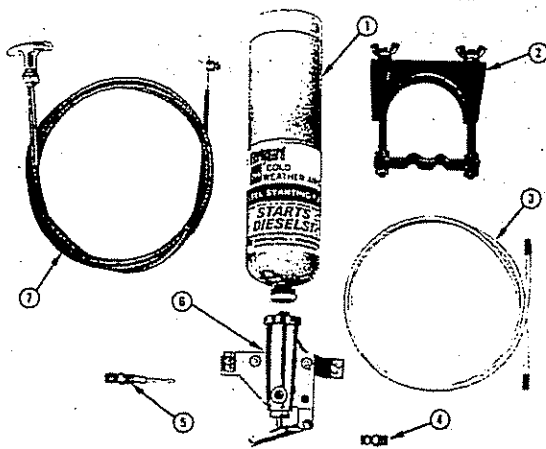

Fig. 1-11, (OM1007L). Manually operated valve
The manually operated valve, illustrated in Fig. 1-11 includes the valve body assembly (6), clamp (2) and nylon tube (3). The fuel cylinder (1), atomizer fitting (5) and pull control (7) must be ordered separately.